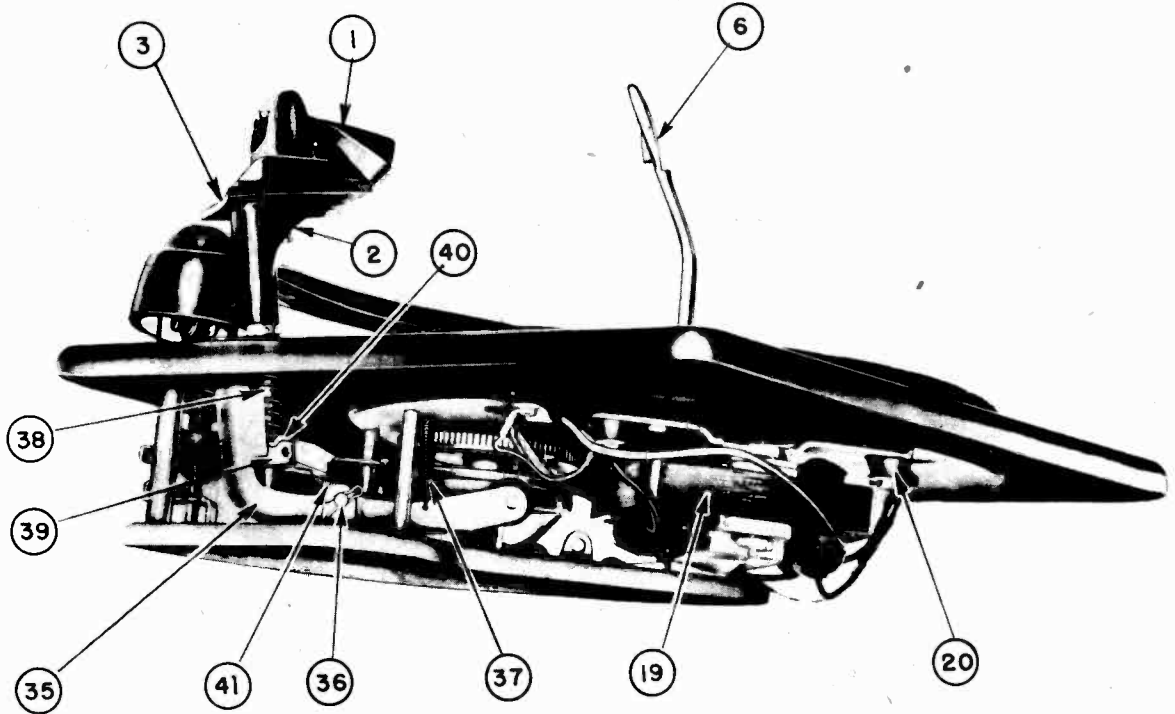

FIG. 5 - PARTS LOCATION -- LEFT SIDE VIEW
- 1 - With the mechanism at rest, wedge the Rocker Arm firmly by inserting a screwdriver between the Rocker Arm and the Sub Plate at a point between the Rocker Arm Pivot (illus. 36 Fig. 5) and the stud.
- 5 - Selector Lever Stop (Illus. 40 Fig. 5).
| <p>1 - Unhook the Rocker Arm Return Spring. (Illus. 37 Fig. 5).</p> <p>2 - Remove the Rocker Arm Pivot Pin. (Illus. 36 Fig. 5).</p> <p>3 - Unfasten the Trim Plate</p> | <p>4 - Lift out the Selector Post, Rocker Arm and Trim Plate as a unit.</p> <p>5 - In replacing the Rocker Arm assembly, note Paragraph VI, D "To Replace Sub-Plate Assembly."</p> |